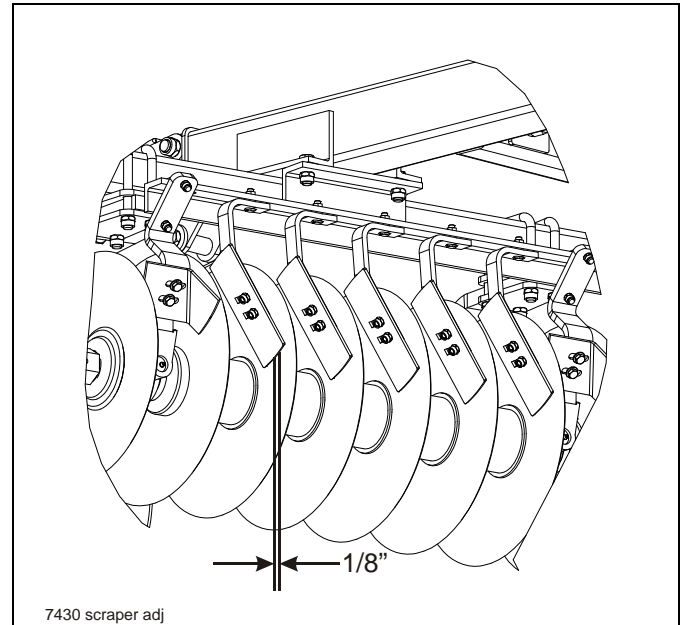

Figure 4-1: Disc Scraper to Disc Blade
5. Check disc scrapers for proper adjustment to the disc blade **(See Figure 4-1.)**